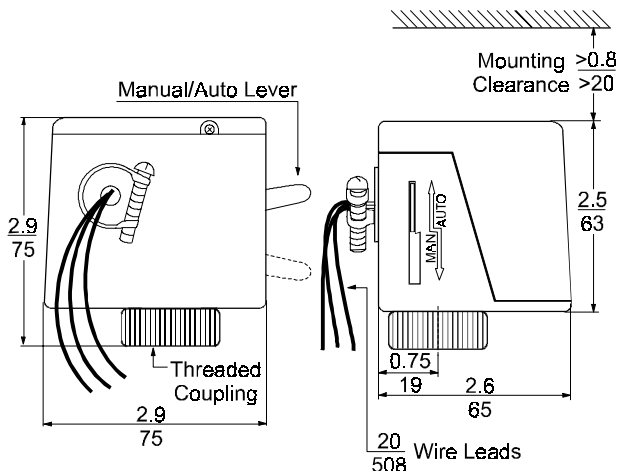

Figure 3: Dimensions, in. (mm)
The VA-7010 actuator features a manual operating lever (shown in Figure 3) for manually opening Normally Closed (N.C.) valves or the N.C. port of 3-way valves. The lever will not fully close Normally Open (N.O.) valves or the N.O. port of 3-way valves.
- Leave at least 0.8 in. (20 mm) clearance above the actuator for mounting purposes. (See Figure 3.)